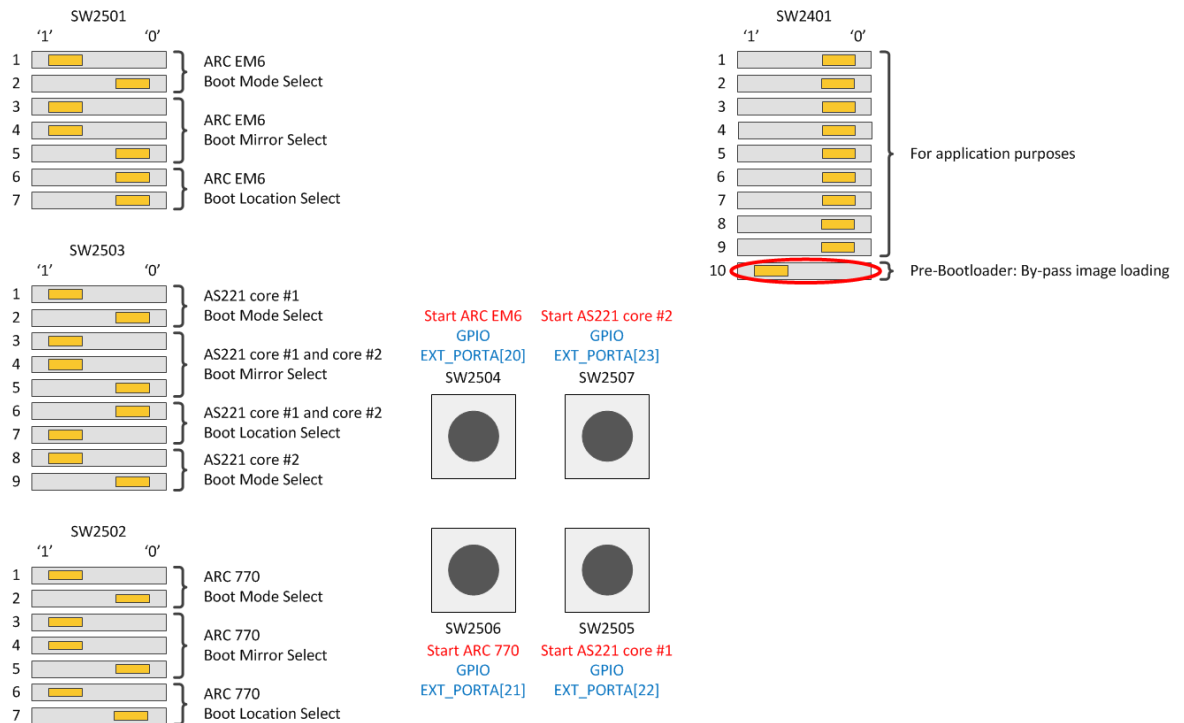

Figure 64 Settings of the DIP switches on the ARC SDP Mainboard for using the debugger
2. Set the switches on the ARC SDP Mainboard as shown in Figure 64. The change compared to the default settings is marked by a red ellipse.